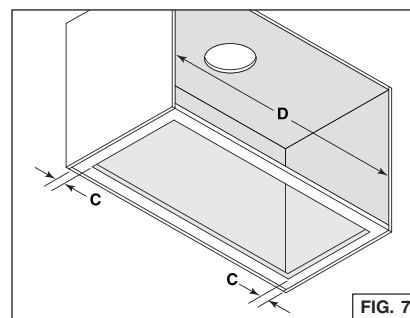

FIG. 7
- Measure the remaining material of the cabinet bottom sides (C in FIG. 7), if it is 1/4" or more, there is no need to use the cabinet brackets. Go to step 8 on next page.
- When there is less than 1/4" remaining material (C), carefully remove those strips. Measure the cabinet inner width (D in FIG. 7). Refer to the table below to see which cabinet bracket edge configuration must be used.